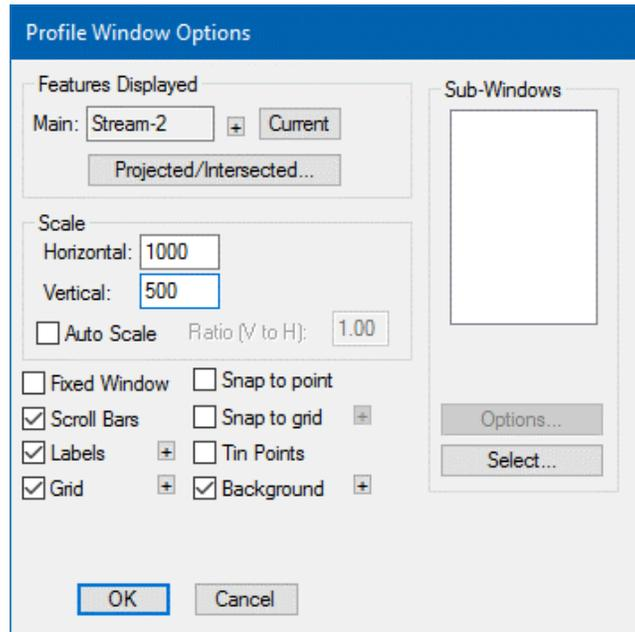

Figure 9-3: Profile Windows Options Dialogue Box
12. Turn on *Elevations* and *Grades* labels: *Profile* | *Profile Options* to open the *Profile Window Options* dialogue box (Figure 9-3).